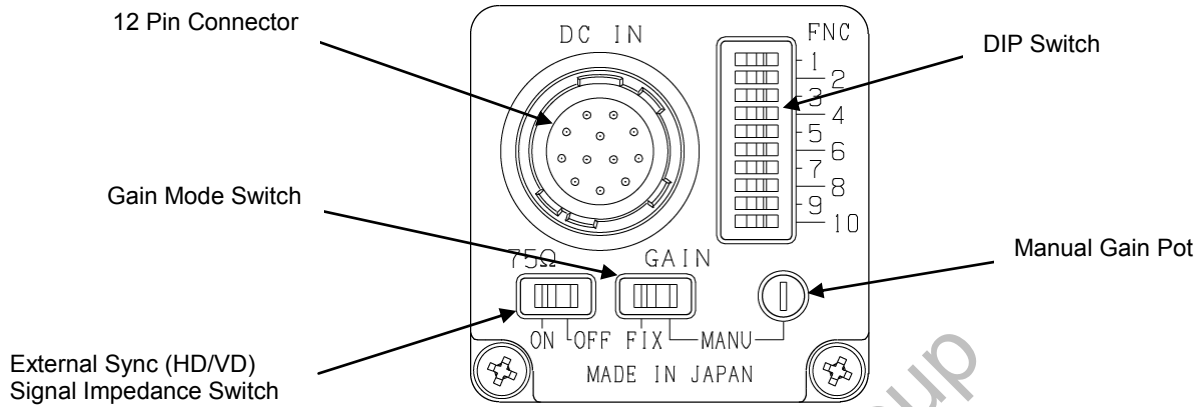

Figure 1
## 2. DIP Switch Settings (Refer to Dip Switch in Figure 1)
3. External Sync. (HD/VD) signal impedance setting (See **External Sync** in **Figure 1**)
4. Gain Mode Setting (See **Gain Mode Switch** in **Fig. 1**)
The gain can be adjustable by the manual gain pot (See **Manual Gain Pot** in **Fig. 1**).